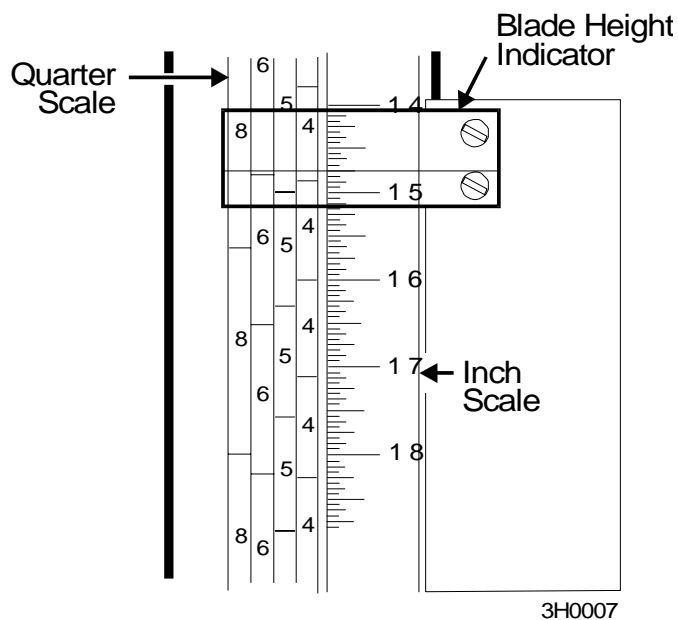

FIG. 5-14
**See Figure 5-14.** Loosen the indicator bracket mounting bolts and adjust the bracket until the indicator is aligned with the correct mark on the scale. Retighten the bracket mounting nuts.